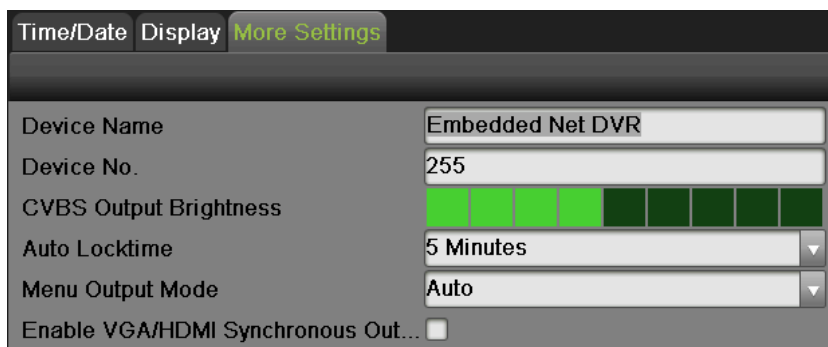

Figure 39 More Settings Menu
2. Set device name, device no., CVBS output brightness, auto lock time, menu output mode and VGA/HDMI synchronous output by going to Menu > System Configuration > General > More Settings, as shown in Figure 39.